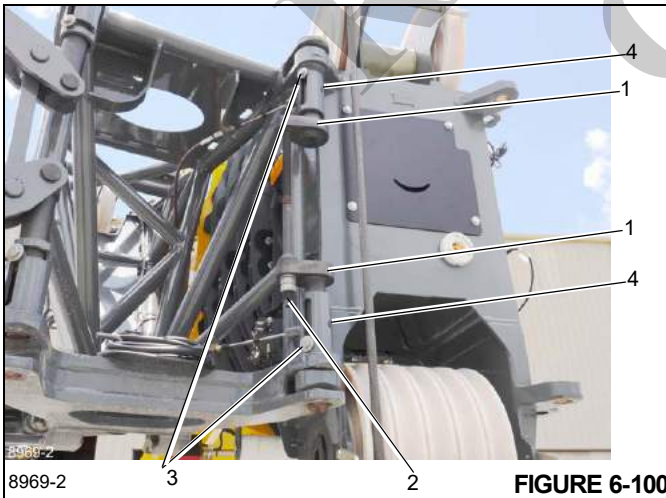

FIGURE 6-100
12. Install the pins (1), (Figure 6-100) through the fittings using an impact driver turning the jack screw (2), (Figure 6-100) counterclockwise. The jack screw drive bolt will bottom out when the pins are fully engaged. The bolts and washers (3), (Figure 6-100) are at the end of the slots. Verify that the pins are fully engaged and that the bolts and washers are at the end of the slots.
NOTE: Pin #2 will **NOT** unlock unless the right side boom nose pins are fully engaged. If Pin #2 does **NOT** unlock, make sure the right side boom nose pins are fully engaged and the cable ends are inserted through the pins. Refer to (4), (Figure 6-100).